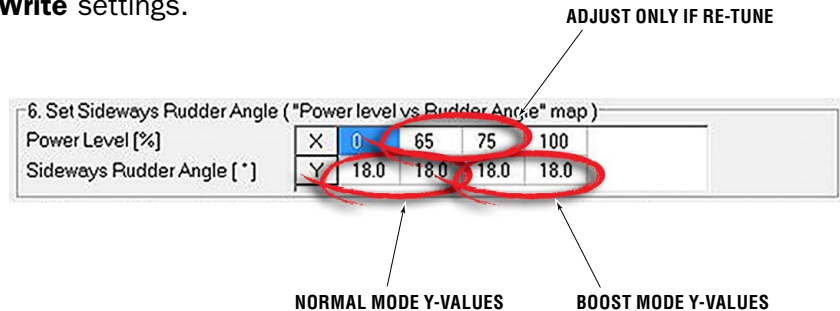

Figure B-12. Power Level vs Rudder Angle.
If you adjusted the power levels in STEP 8 and are now performing a re-tune, adjust the X-values in the table as follows (see figure B-12):
- a) If the boat rotates clockwise as it starts to move, decrease both *normal mode Y-values* (see figure B-12) by up to two units. If the boat rotates counterclockwise, increase the values.